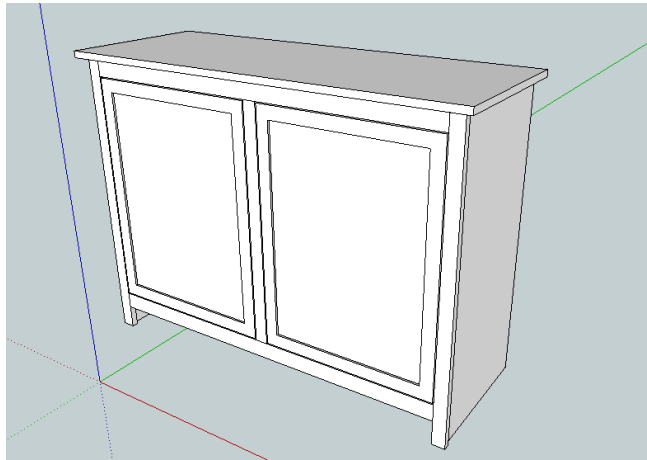

Figure 21: Assembled Bottom Cabinet
6. The countertop gets attached to the bottom cabinet by using pocket screws. The pocket screw holes can be located on the back of the cabinet as well as on the interior side of the face frame. Apply a liberal bead of glue to the top of the cabinet box. Rest the countertop onto the box. The back of the countertop should be flush with the back of the box. It should overhang the front and sides by 1". See Figures 21 and 22.